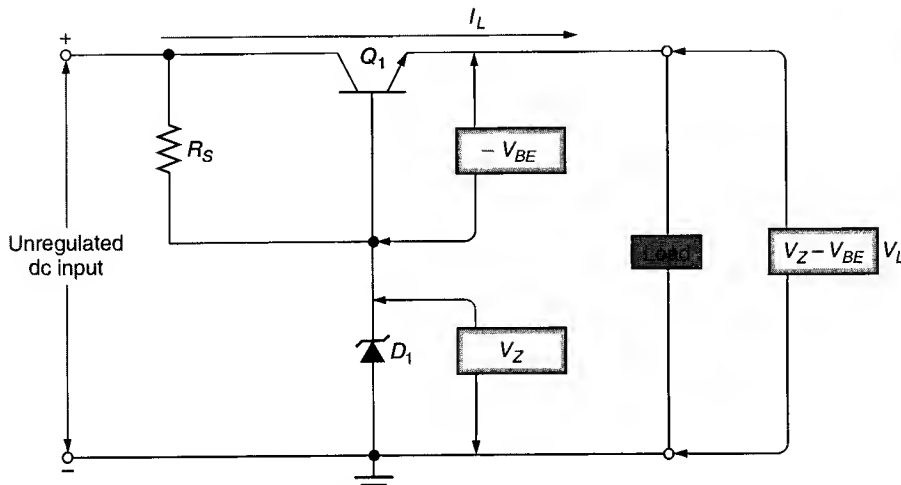
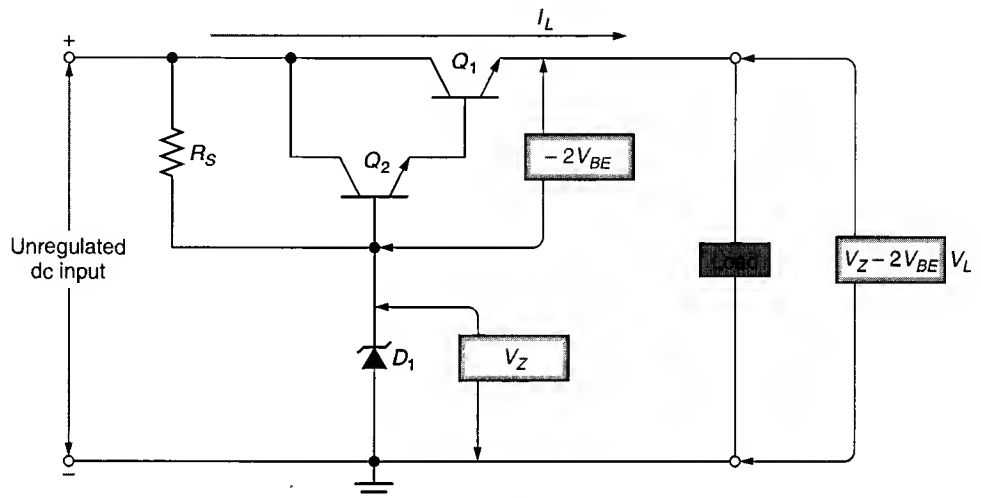

FIGURE 21.4 Pass-transistor regulator.
FIGURE 21.5 Darlington pass-transistor regulator.
The **pass-transistor regulator** uses a series transistor, called a *pass-transistor*, to regulate load voltage. The term *pass-transistor* is used because the load current passes through the series transistor, Q_1 , as shown in Figure 21.4.
The pass-transistor regulator in Figure 21.4 has relatively good line and load regulation characteristics, but there is a problem with the circuit. If the input voltage or load current values increase, the zener diode may have to dissipate a relatively high amount of power. You see, increases in V_{in} or I_L result in an increase in zener conduction. The increased zener conduction results in higher power dissipation by the device. This problem is reduced by the use of the *Darlington pass-transistor regulator*.
The **Darlington pass-transistor regulator** uses a Darlington pair (Q_1 and Q_2), in place of a single pass-transistor, as shown in Figure 21.5. The load voltage for the Darlington circuit is found as
Since the total current gain of a Darlington pair is equal to $h_{FE1}h_{FE2}$, an increase in load current causes very little, if any, increase in zener current. Therefore, the regulator in Figure 21.5 is not subject to the same power concerns as the regulator in Figure 21.4. However, zener conduction is affected by temperature and the zener current is applied to the high-current-gain Darlington pair. As a result, the load current in the Darlington pass-transistor regulator can be severely affected by significant increases in operating temperature. For this reason, the Darlington pass-transistor regulator must be kept at a relatively constant temperature.
2. Describe how the pass-transistor regulator in Figure 21.4 responds to a change in load resistance.
7. How would the circuit shown in Figure 21.4 respond to slight variations in line voltage?